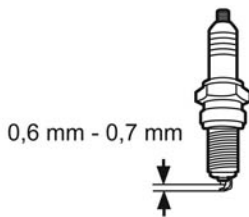

Fig. 38
- > Check the spark plug gap. It must be between 0.6 mm - 0.7 mm (Fig. 38).